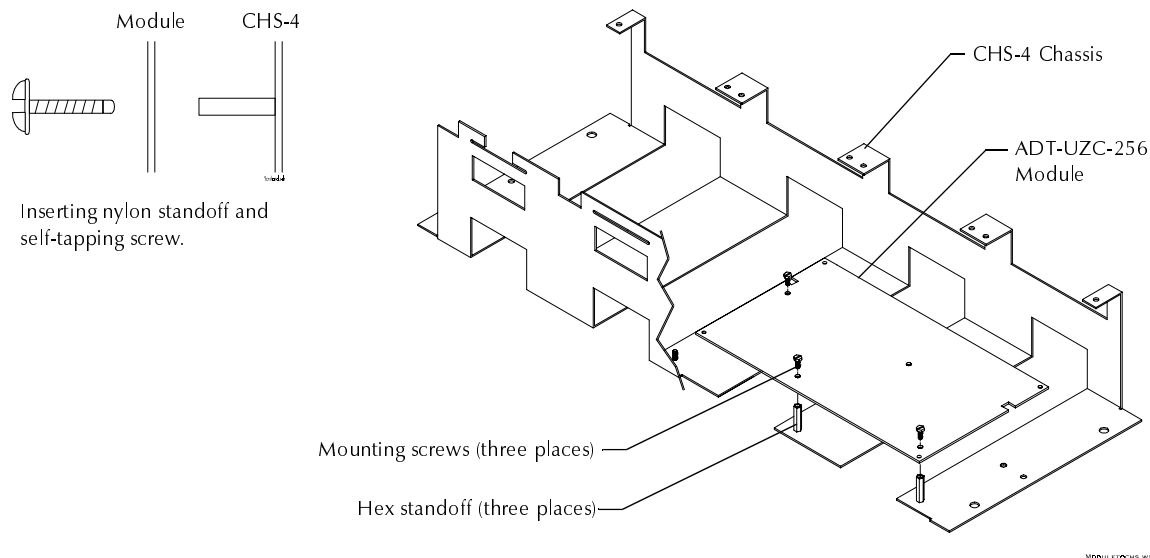

Figure 2-27 Mounting an ADT-UZC-256 to a CHS-4
1. Thread the supplied three hex standoffs to the mounting studs on the CHS-4 chassis (Figure 2-27).
2. Place the module onto the CHS-4 as shown in Figure 2-27; then, insert and tighten the mounting screws.